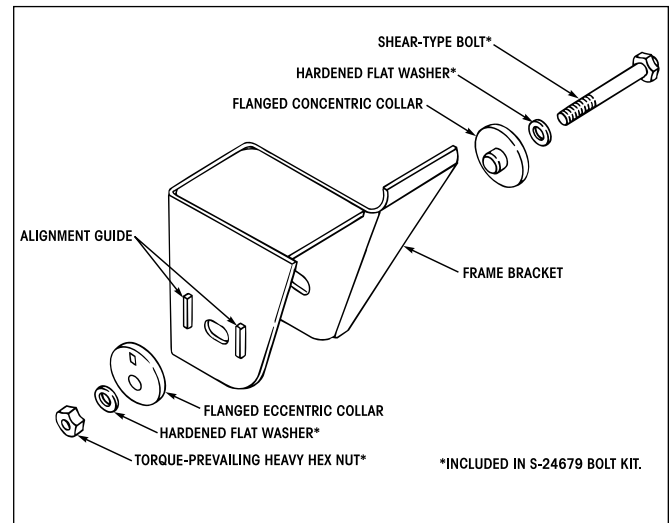

Figure 4. Installing trailing arm in frame bracket
2. Lower the trailing arm TRI-FUNCTIONAL® BUSHINGS into the frame brackets. Also install bushing wear pads at this time (Figure 4).
4. Working from the inboard side of the trailer, insert the pivot fastener through the frame bracket (toward the tires) (Figure 4).